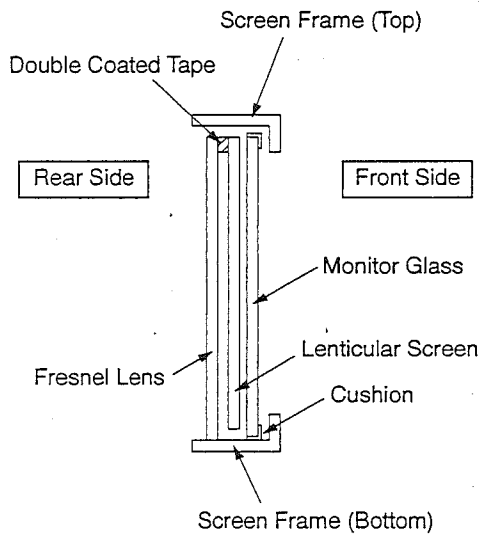

Fig. 4-4
3. Insert the Monitor Glass into the Screen Frame. (Fig. 4-4)